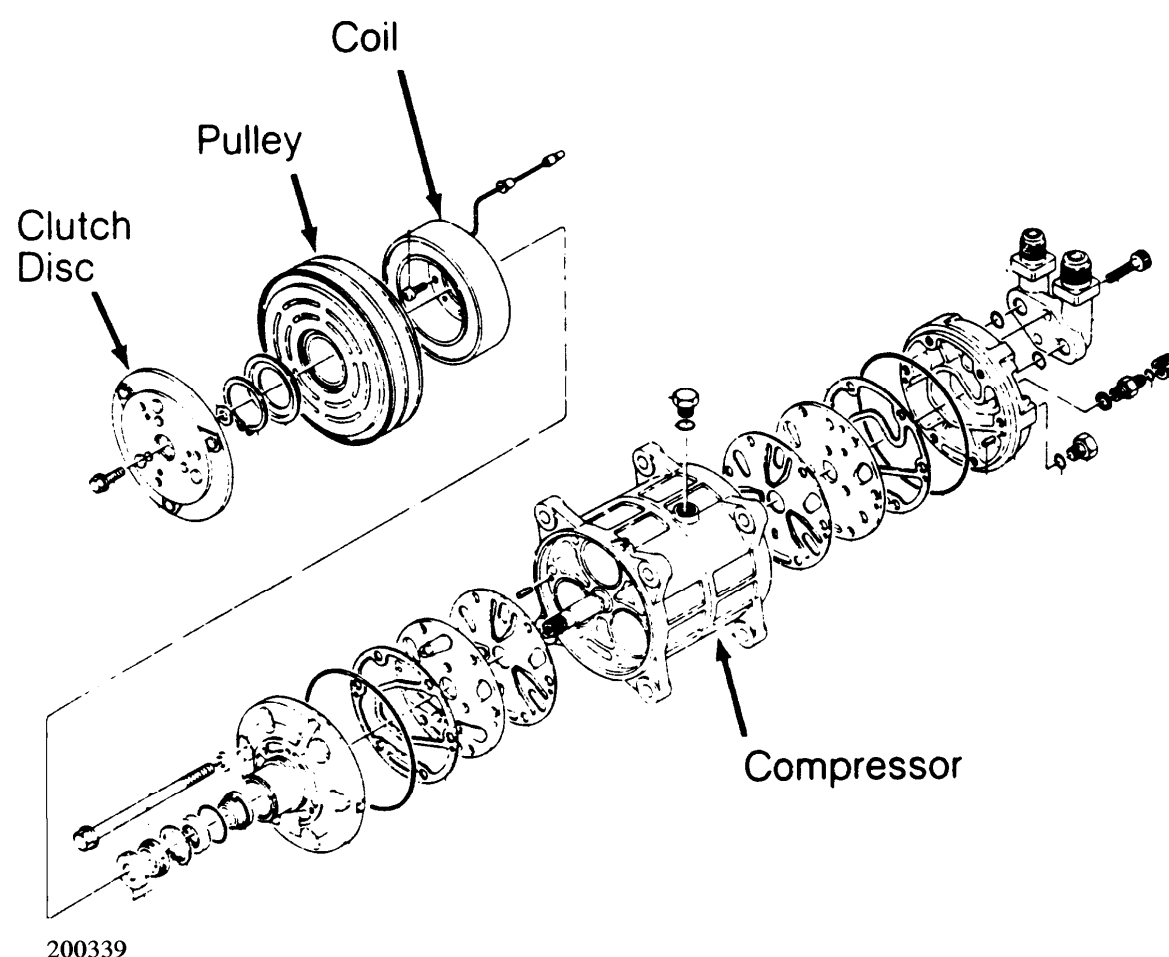

Fig. 5: Diesel Kiki 6-Cylinder Compressor
2. Thread Clutch Plate and Hub Assembly Remover (J-33013-B) into hub. Hold body of remover with a wrench and turn center screw into remover body to remove clutch plate and hub assembly. Remove shaft key and retain for assembly. See Fig. 5 .